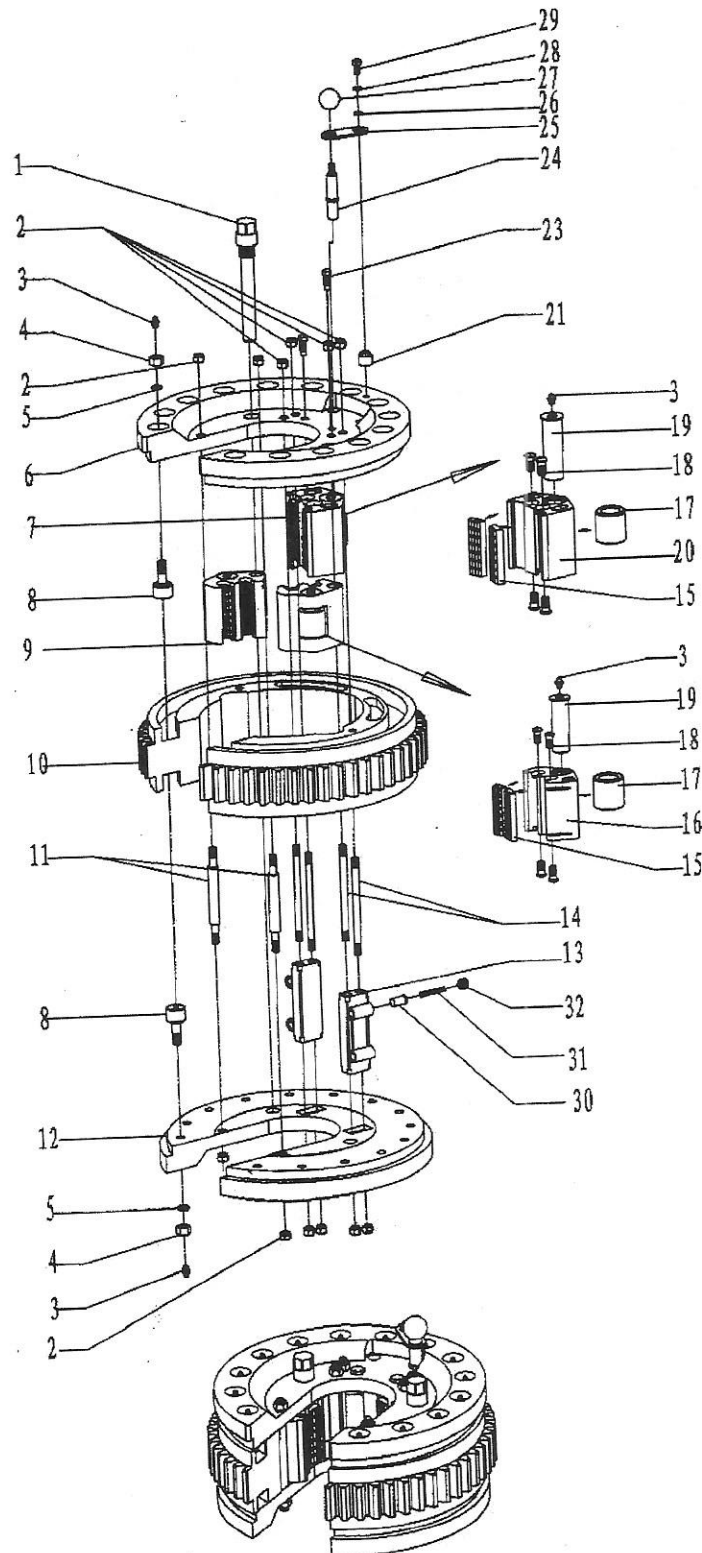

Fig. 6
3. Assembly of tong head (Fig 6, Table 3)